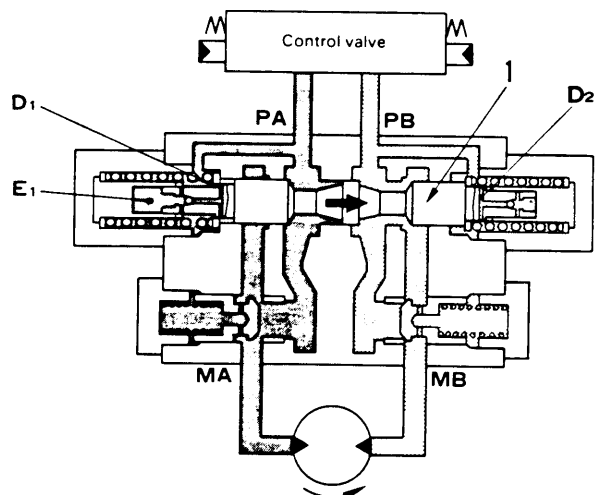

Fig.3
- The pressurized oil at the supply side flows from orifice **D1** in spool (1) to chamber **E1**, and when the pressure in chamber **E1** goes above the spool switching pressure, spool (1) is pushed to the right in the direction of the arrow. As a result, port **MB** and port **PB** are connected, the outlet port side of the motor is opened, and the motor starts to rotate. (Fig. 3)